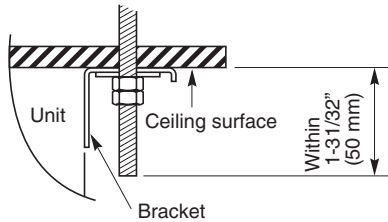

Fig. 1-193
- (5) Screw in the suspension bolts, allowing them to protrude from the ceiling (Figs. 1-191 and 1-192). The distance of each exposed bolt must be of equal length within 1-31/32" (50 mm). (Fig. 1-193)